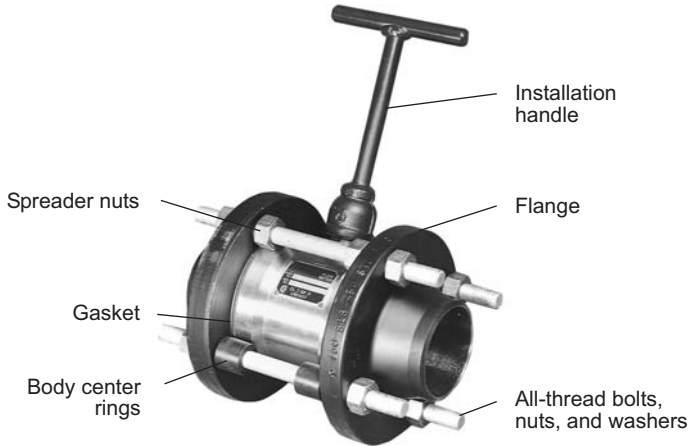

Fig. 2—Assembled flowmeter with optional installation handle
For installation, ANSI RF flanges and gaskets are recommended as well as all-thread studs, bolts, nuts and washers. Body centering rings and flow straighteners can also be used. An installation handle (Fig. 2, Page 3) is available to allow easier installation and removal (Part No. 100079570). An optional $\frac{3}{4}$ -in. thin-wall pickup locking-nut socket is also available (Part No. 100013146).
3. Lift the meter between the pipeline flanges, using an installation handle if necessary (Fig. 2, Page 3).